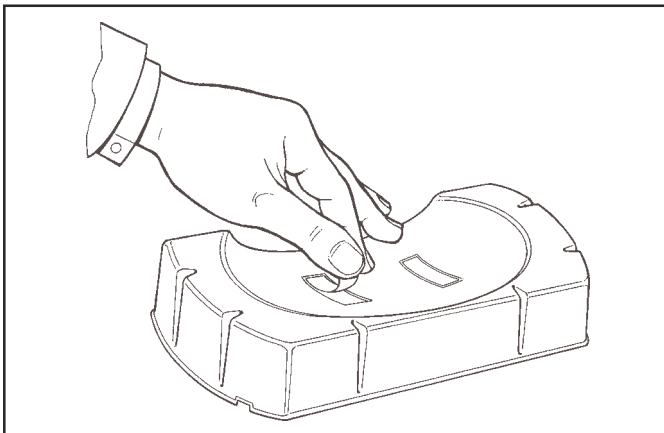

Figure 2
- 2) Remove the protective film from the strips of adhesive tape (located on the underside of the lower tray) just before assembly. This film should only be removed at the time of assembly, because accidental contact with the tape can interfere with its adherence (figure 2).